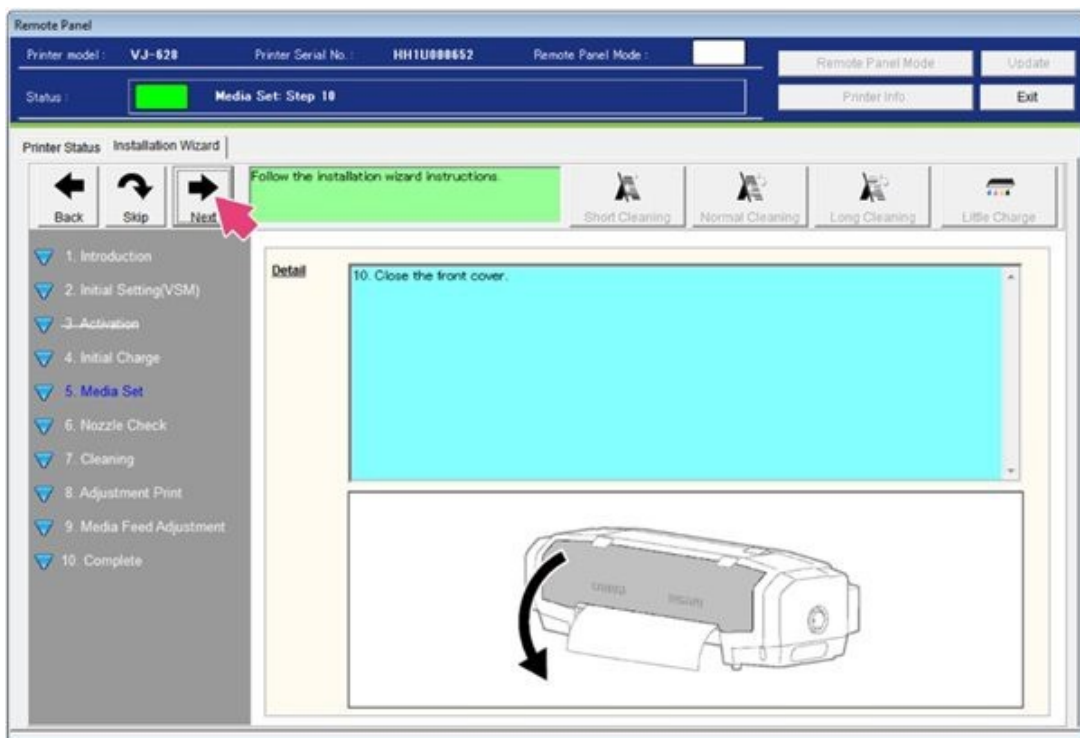

Figure 73
60. The media is now loaded. Close the front cover door; then select **Next**. See Figure 73.